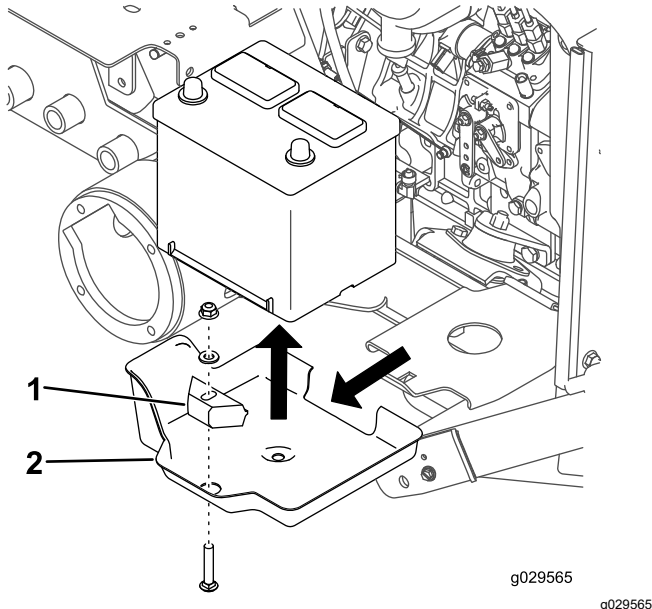

Figure 23
3. Remove the carriage bolt, washer, battery hold-down, and nut securing the battery (Figure 23).
4. Remove the battery from the battery tray (Figure 23).
5. Remove the battery tray from the battery platform (Figure 23).